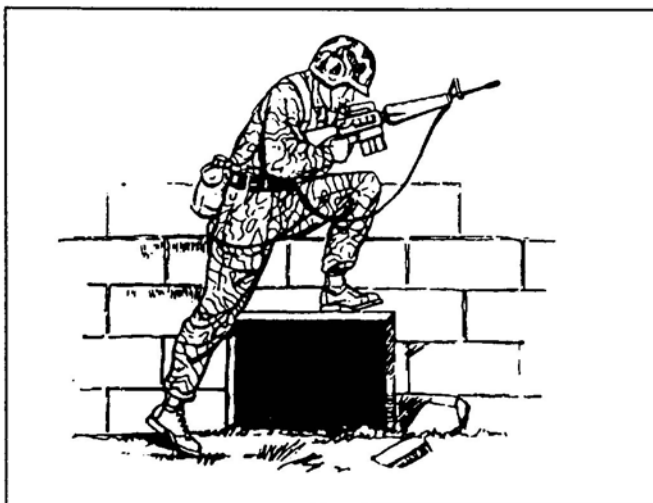

Figure 5. Start of movement past basement window.
- (1) Do not merely walk or run past a basement window; your legs will present a good target to an enemy gunner inside the building.
- (2) The right way to pass a basement window is to keep as close to the building as possible and, when you reach the window, step or jump above and pass the window without exposing your legs (Figures 5 and 6).